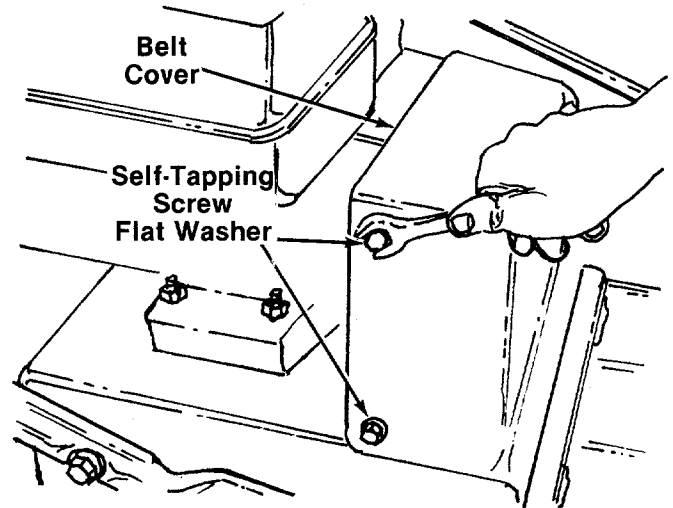

FIGURE 26.
2. Remove the plastic belt cover on the front of the engine by removing the three self-tapping screws and flat washers. See figure 26.